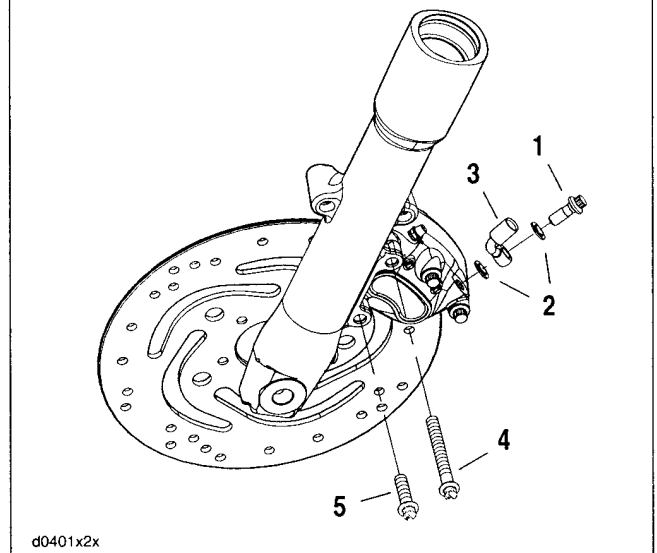
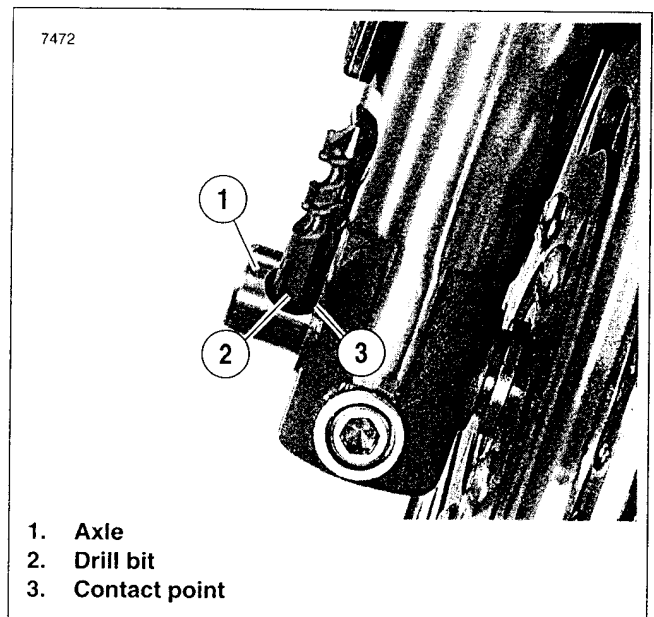

Figure 2-70. Front Caliper Mount
Figure 2-77. Dual Brake Disc Alignment
1. See Figure 2-70. Remove the banjo bolt (1) and both steel/rubber washers (2) to detach front brake line (3) from caliper. Discard washers.
2. Remove both the upper (4) and lower (5) mounting bolts (12 pt/10 mm). Lift caliper upward to remove from brake disc.
1. If servicing a vehicle with a single front brake caliper, advance to the next step. On models with dual front brakes, align calipers to brake discs. See Figure 2-77.
- c. Insert 7/16 in. drill bit (2) into hole in axle (1) as far as it will go.
- d. Position fork leg against edge of drill bit. Contact point (3) must have edge of drill bit touching the edge of fork leg.
2. See Figure 2-70. Attach caliper to fork leg.
- b. Loosely install long mounting bolt (4) (12 pt/10 mm) into top hole on fork leg.
- c. Install short mounting bolt (5) (12 pt/10 mm) into bottom hole on fork leg. Tighten bottom mounting bolt to 28-38 ft-lbs (38.51.5 Nm).